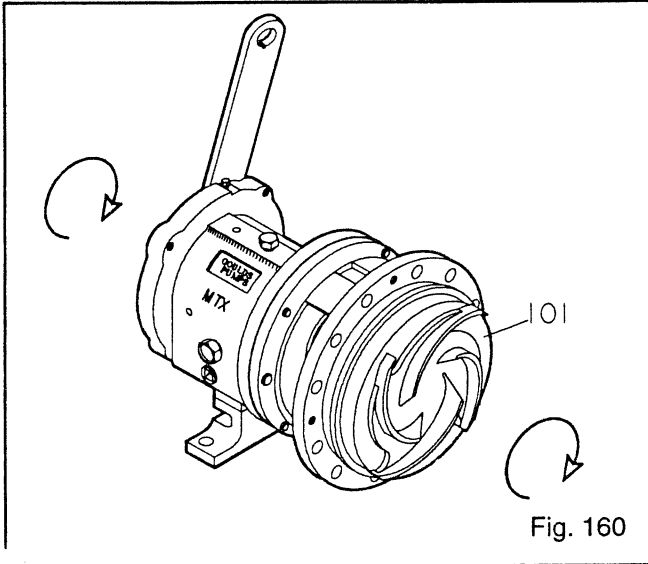

Fig. 160
15. Install impeller (101) with new O-ring (412A). Put shaft wrench and coupling key on shaft. When impeller (101) makes firm contact with sleeve (126), raise shaft wrench (counterclockwise when viewed from impeller end of shaft) off bench and slam it down (clockwise when viewed from impeller end of shaft). A few sharp raps will tighten impeller (101) properly (Fig. 160).